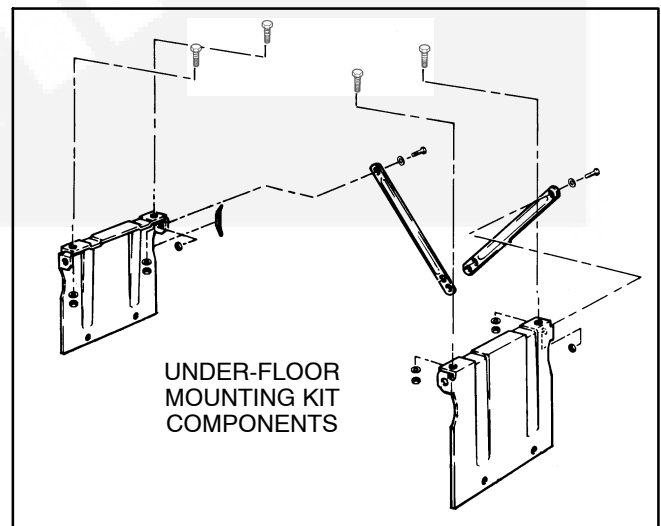

FIGURE 3-9. UNDER-FLOOR MOUNTING KIT
3. Assemble the under-floor mounting kit according to the instructions provided with the kit. Note that the side panels can be mounted with the top flanges toward the genset, as shown in Figure 3-9, or they can be reversed to point away from the genset.